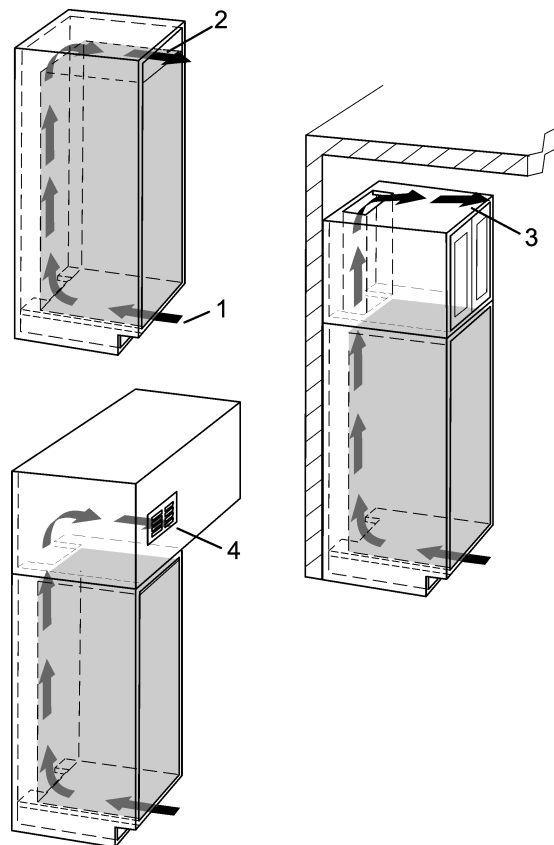

Fig. 1
- There must be a ventilation space at least 31 in² (200 cm²) at the airflow inlet Fig. 1 (1) and at the airflow outlet Fig. 1 (2).
- The top ventilation space can be either directly over the appliance Fig. 1 (2) or next to the ceiling over a cabinet Fig. 1 (3), or through a vent installed in a soffit Fig. 1 (4).